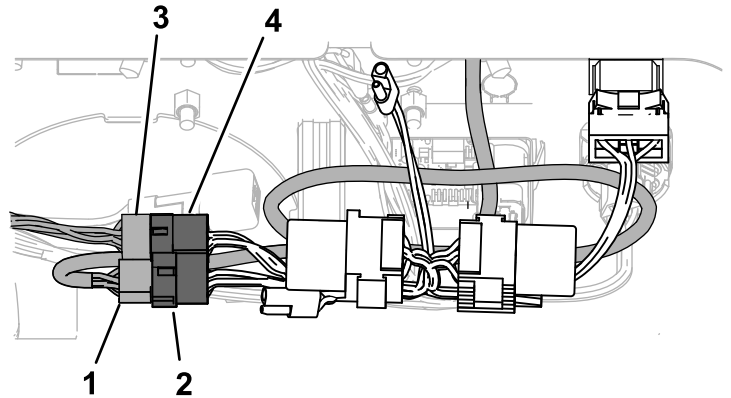

Figure 5
6. Disconnect the Low Flow Kit wire harness from the controller harness and plug it into the manifold connector (P01) of the kit wire harness (Figure 5).
7. Plug the controller harness connector into the switch box connector (P02) as shown in Figure 5.